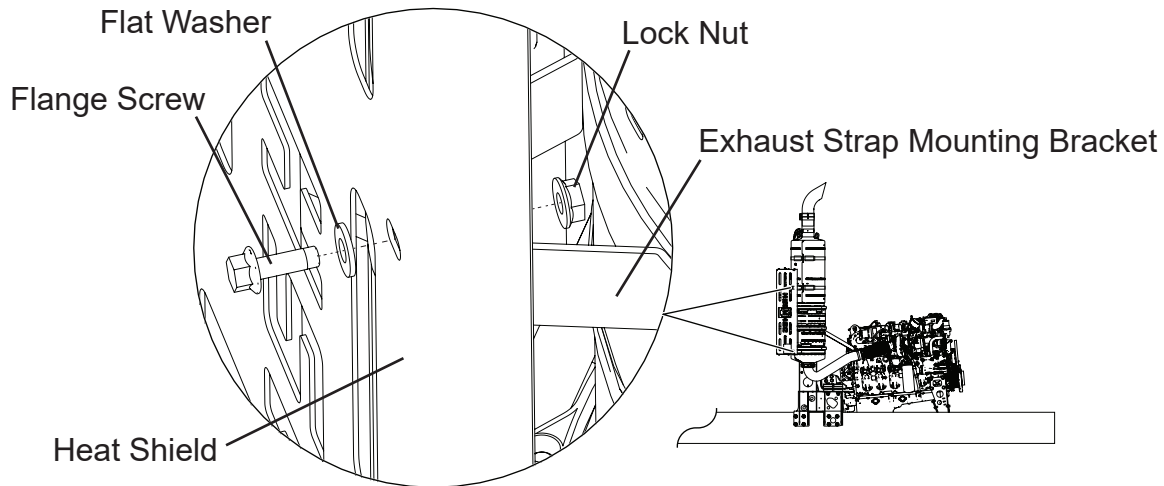

Figure 5
9. Remove the flange screw, flat washer, and lock nut securing the aftertreatment shield to the exhaust strap mounting bracket, see Figure 5.